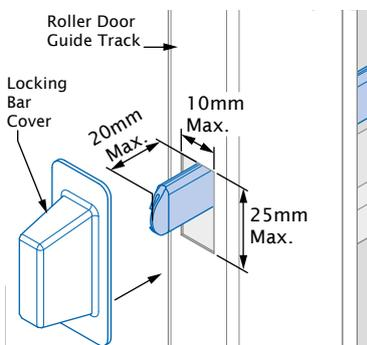

Figure 17
**NOTE:** When the locking mechanism is set to the lock position, the locking bars must not continue more than 20mm past the roller door guide track (Figure 17). If the locking bars travel further than 20mm past the guide track, the locking bars require trimming.
Clean the surface around the slot on the outside of the roller door guide tracks before sticking on the locking bar covers (Figure 17).